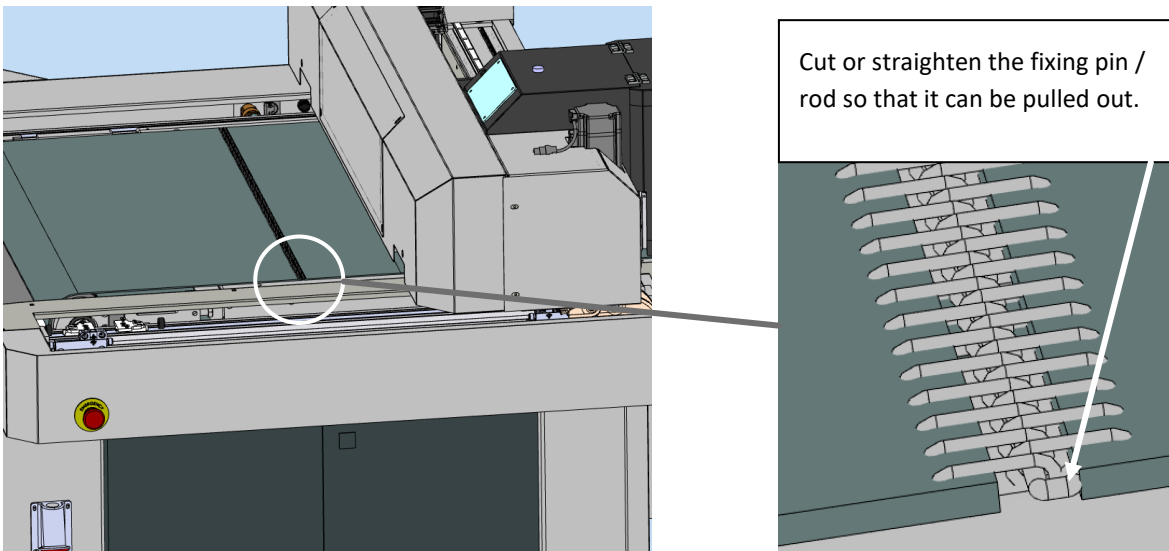

Figure 8-6
- Insert the joint pin and bend the two ends as shown in Figure 8-6.